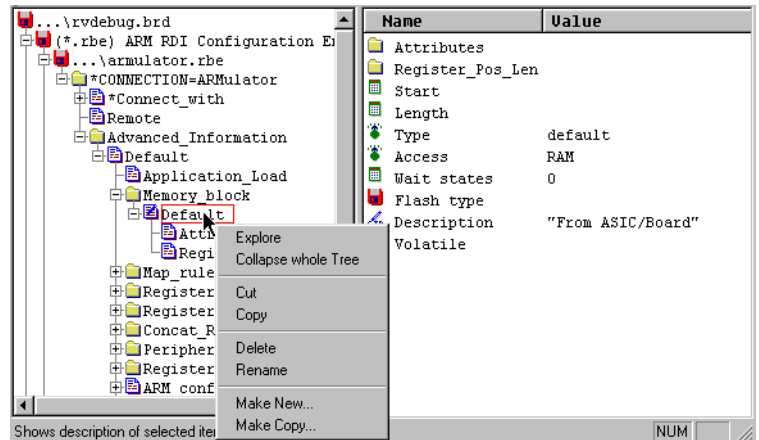

Figure 3-23 The default Memory_block settings for ARMulator
3. Right-click on the Default entry, under Memory_block, to display the context menu, shown in Figure 3-23 on page 3-27.